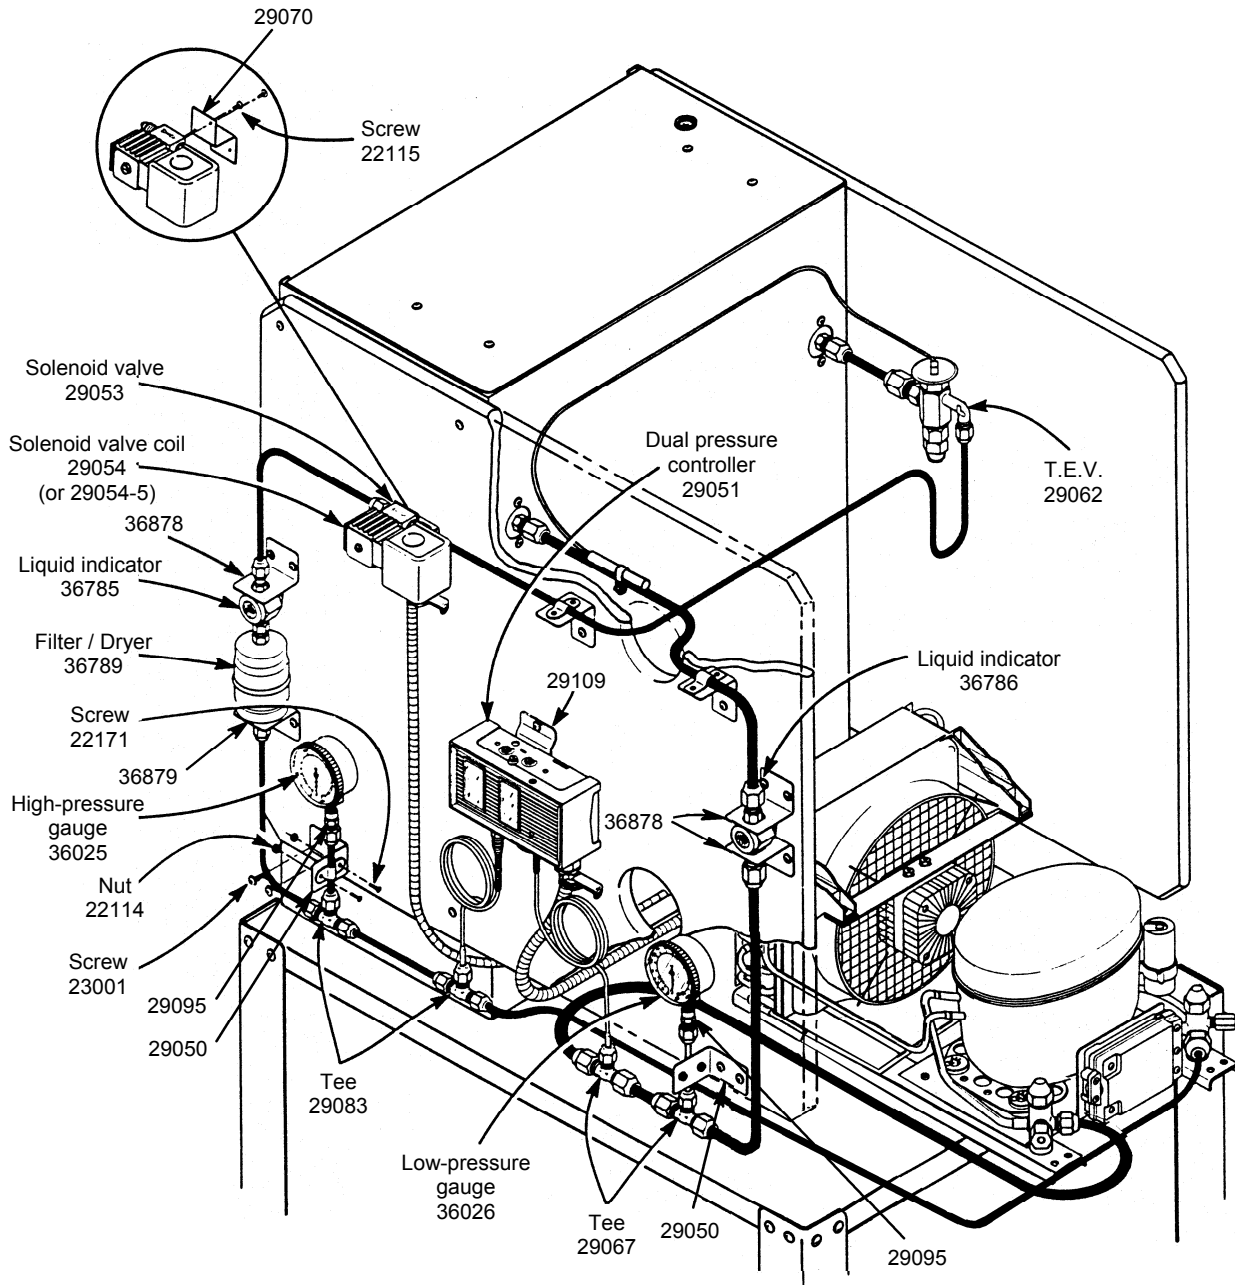
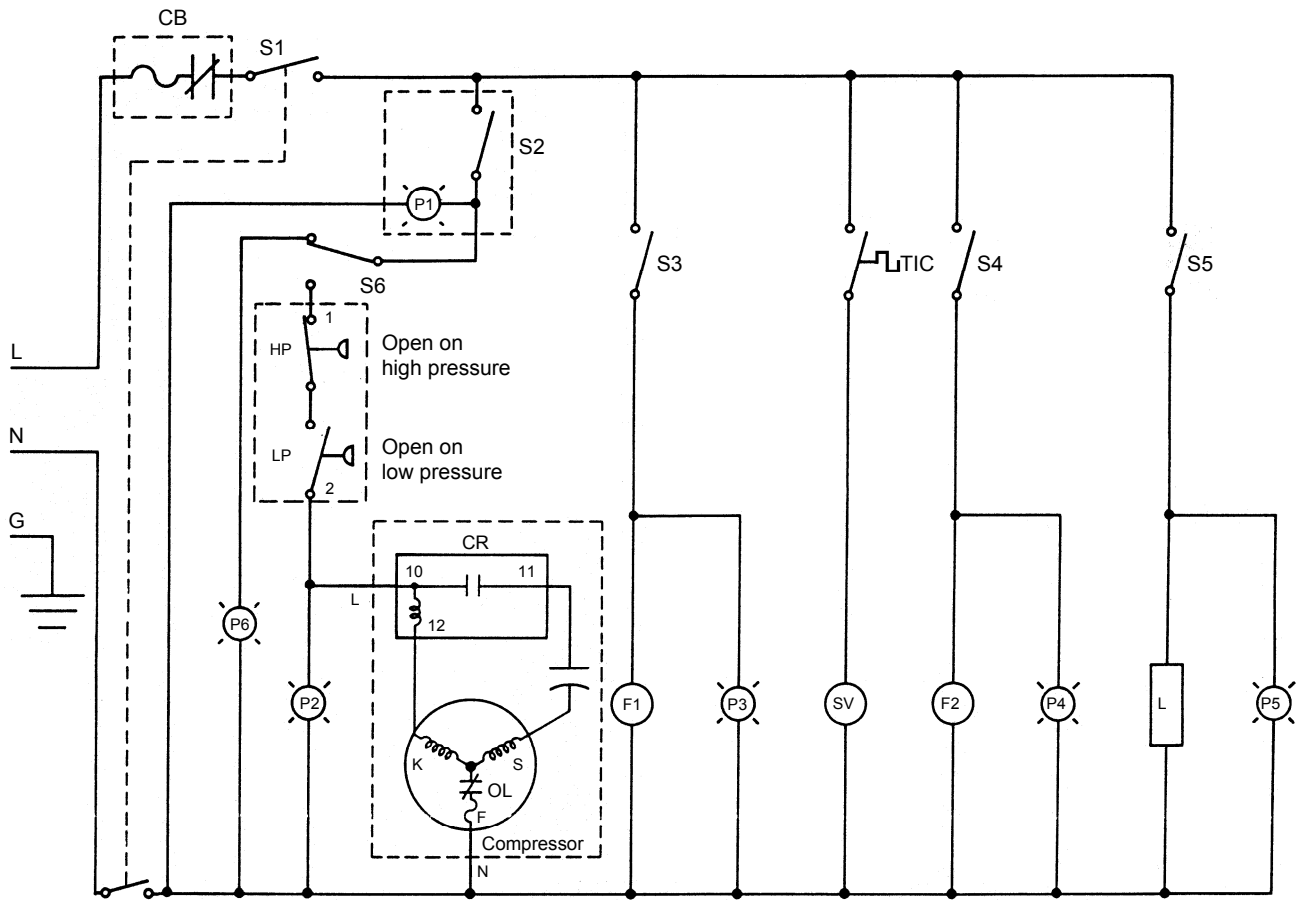
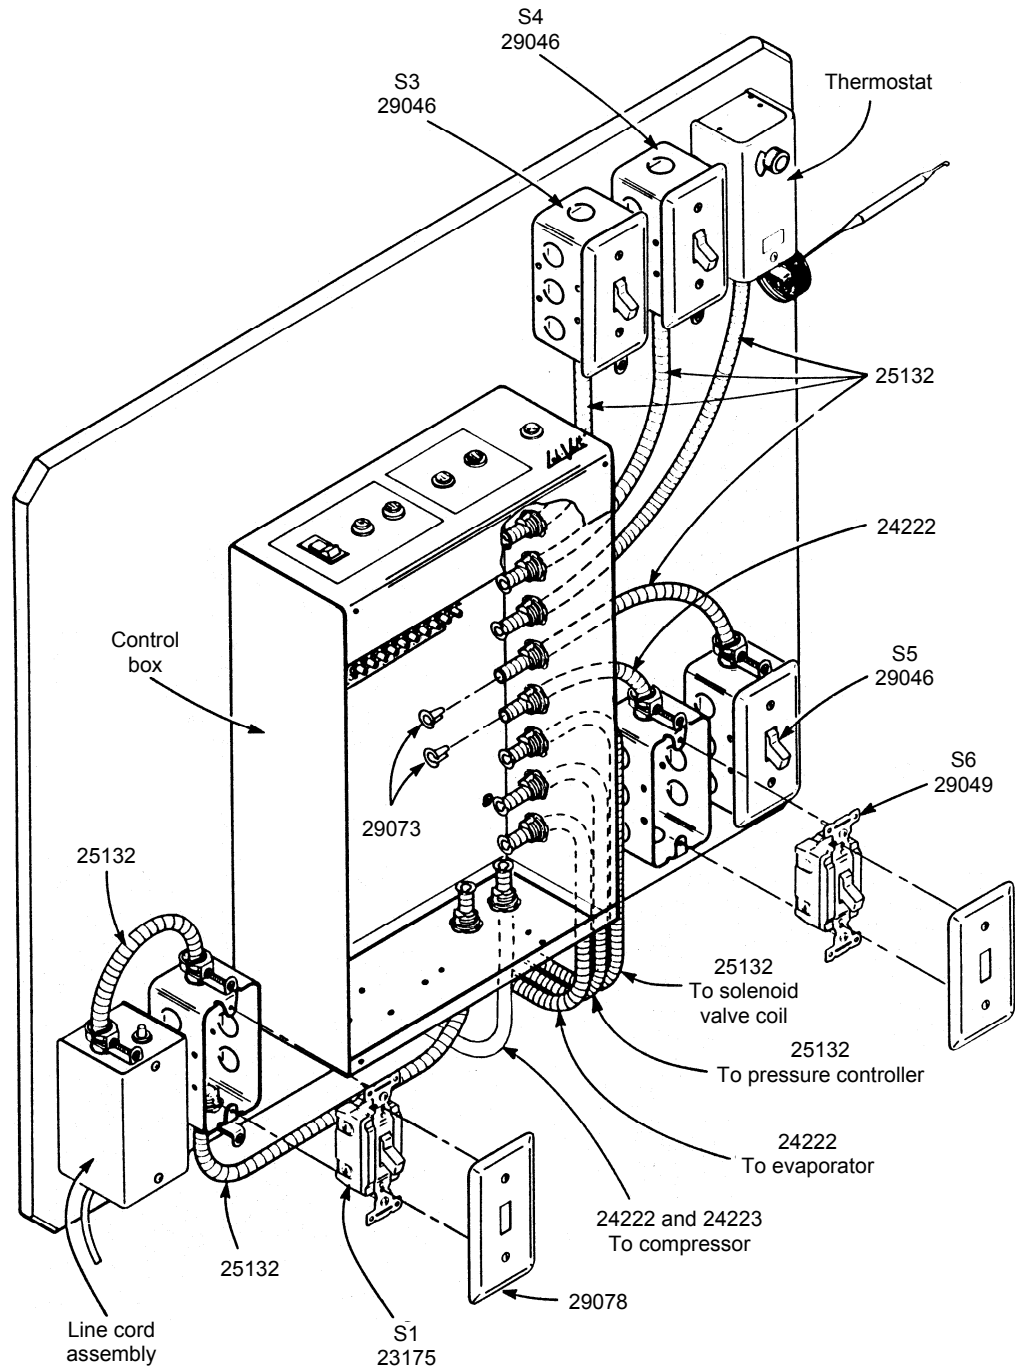

Figure 2-17. Suggested layout.
Figure 2-18. Electrical schematic diagram.
Figure 2-19. Suggested layout for switches.
1. Modify the control circuit of the previous exercise to include the thermostatic controller. Refer to Figure 2-17, Figure 2-18, and Figure 2-19. Rewire the control circuit to include the change. The heat load and evaporator wiring is shown in Figure 1-8.